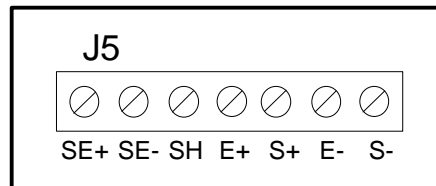

Figure 2-6: Connection assignments for the Load Cell Terminal (J5)
1. Connect your shielded load cell cable (not included) to terminal J5 on the main board. Connection assignments for the Load Cell Terminal (J5) are shown in Figure 2-6.